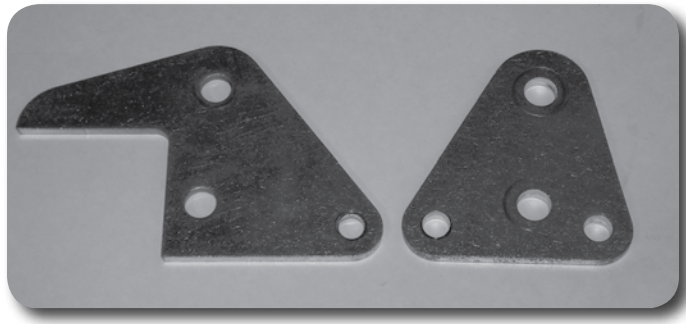

Figure 8
23. Locate the new front track bar bracket plates (outside, inside) and sleeve (0.750 x 0.083 x 1.375). The outside bracket plate is triangular shaped and the inside has a "wing" on it. The inside plate wing will be welded on during the installation. Using a grinder (or equivalent) remove the zinc plating from the bottom edge and approximate 1/2" up the front face of the wing. This will promote good welds. **Figure 8**